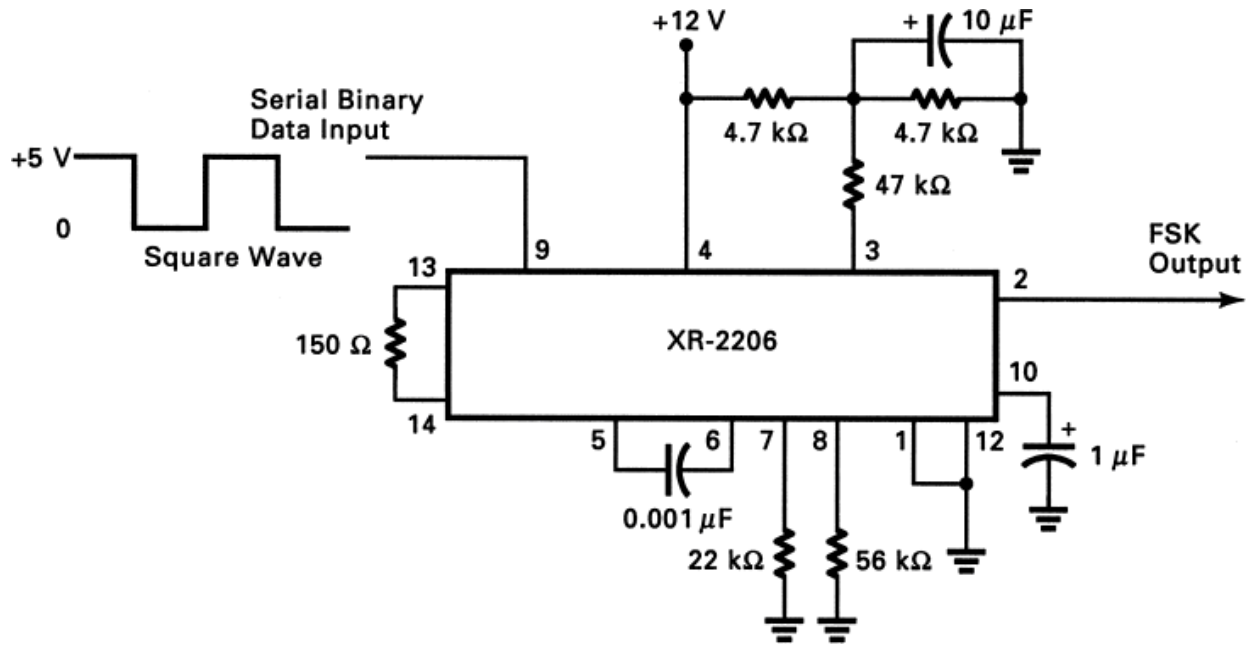

Fig. 10-5 FSK generator.
1. Construct the circuit shown in Fig. 10-5. You may have retained the 2206 function generator circuit used in many preceding experiments. If so, modify it so that it appears as shown in Fig. 10-5.
5. The frequencies of the output tones produced by the 2206 are determined by resistor and capacitor values; specifically, the $0.001\text{-}\mu\text{F}$ capacitor connected between pins 5 and 6 and the 22- and 56-k Ω resistors connected to pins 7 and 8 in Fig. 10-5. Knowing that, what steps would you take to reverse the frequency tones you determined in step 4? That is, how would you change the tone obtained with binary 0 so that it is produced when a binary 1 occurs, and vice versa?